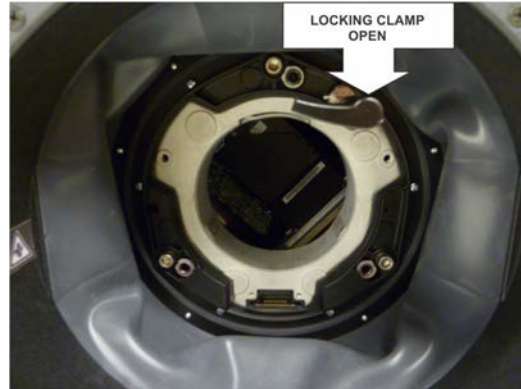

FIGURE 4-6
1. Rotate the lens clamp to the OPEN position, to remove old lens. See Figure 4-6.